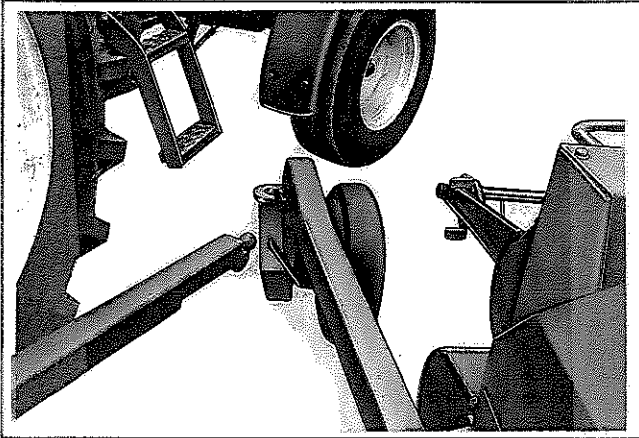

Fig. 14
**Fig. 14** For connection the lift suspension hoop is lowered. Drive at an angle towards the machine until the lift suspension ball hits the corner of the snaphead. Then the lift suspension is raised and the machine has been connected in the front point.